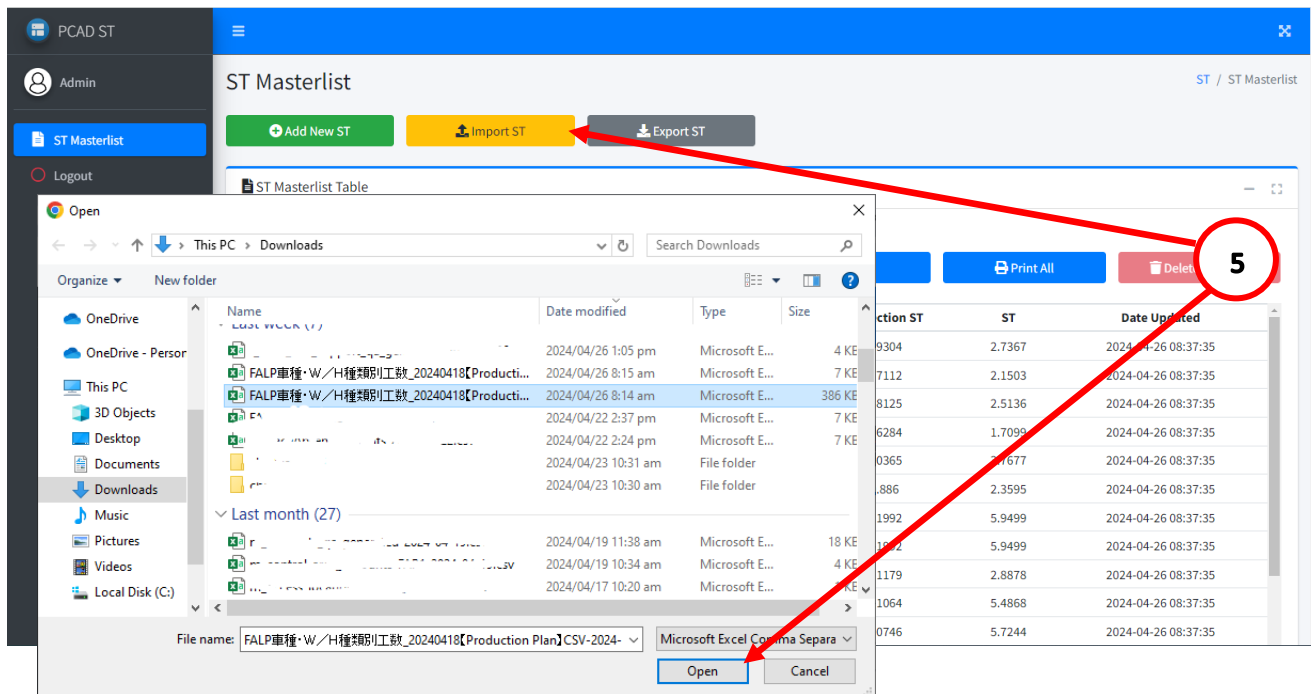

Figure 1.4
5. Click **Import ST** button. Make sure you convert the filled-out template on a **.csv file format**. Select the template and click **Open** Button. This will automatically import new ST or update existing ST information and a success dialog box will appear. (See Figure 1.4)